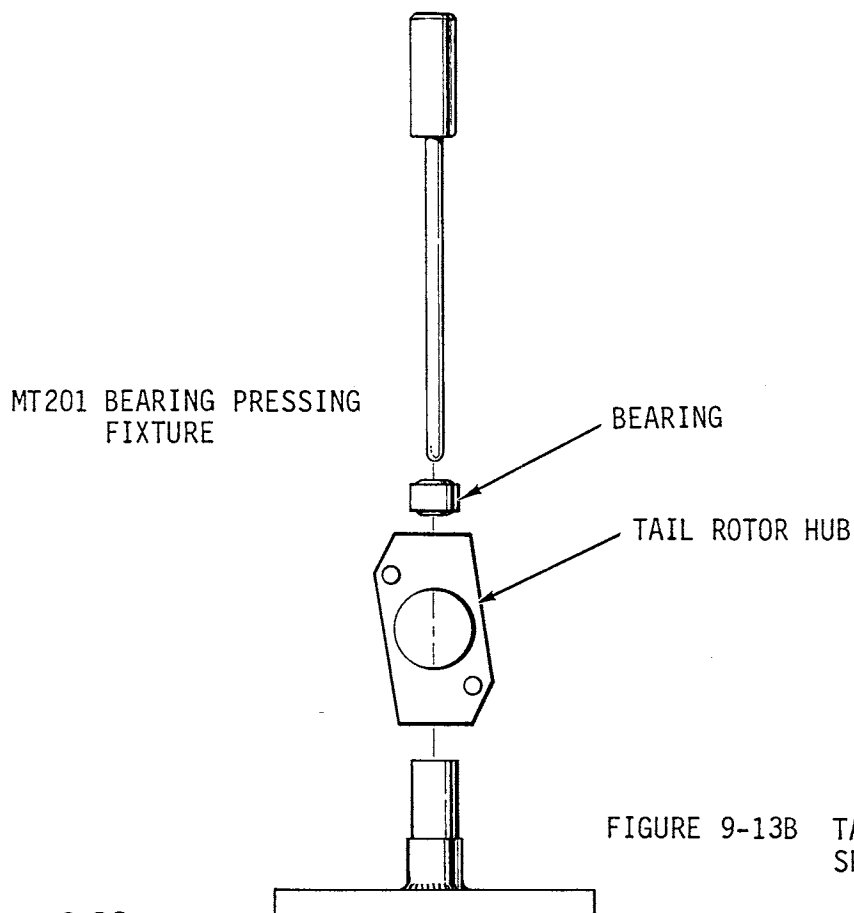

FIGURE 9-13B TAIL ROTOR HUB
6. See Figure 9-13B. Using special tool MT201, install bearings into hub as follows: